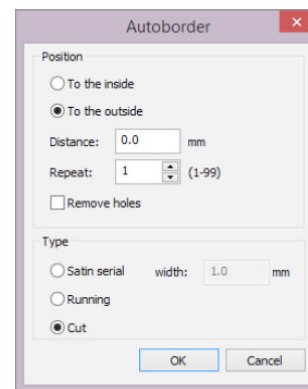

Fig. 22
9. Place bullets to select *To the Outside* and *Cut* (See Fig. 22). Distance = 0.0 <OK>